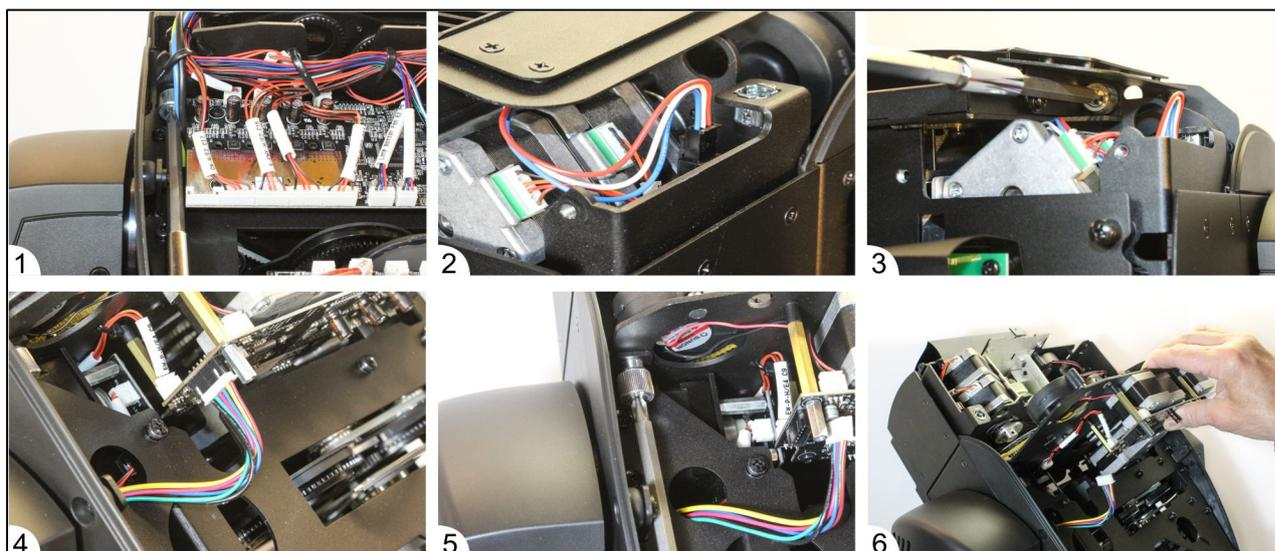

Figure 16. Removing the gobo module
2. See Figure 16. On the top side of the head, loosen the captive thumb screws on each side of the gobo module (**Error! Reference source not found.**panel 1).